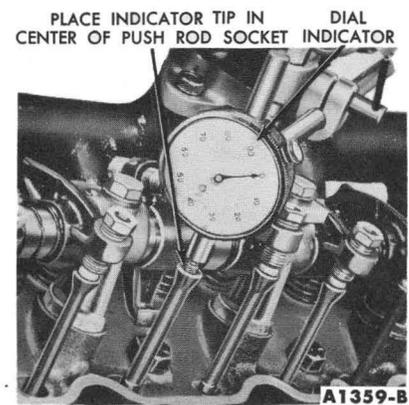

FIG. 20—Camshaft Lobe Lift
2. Make sure the push rod is in the tappet socket. Install a dial indicator in such a manner as to have the actuating point of the indicator in the push rod socket and in the same plane as the push rod movement (Fig. 20).